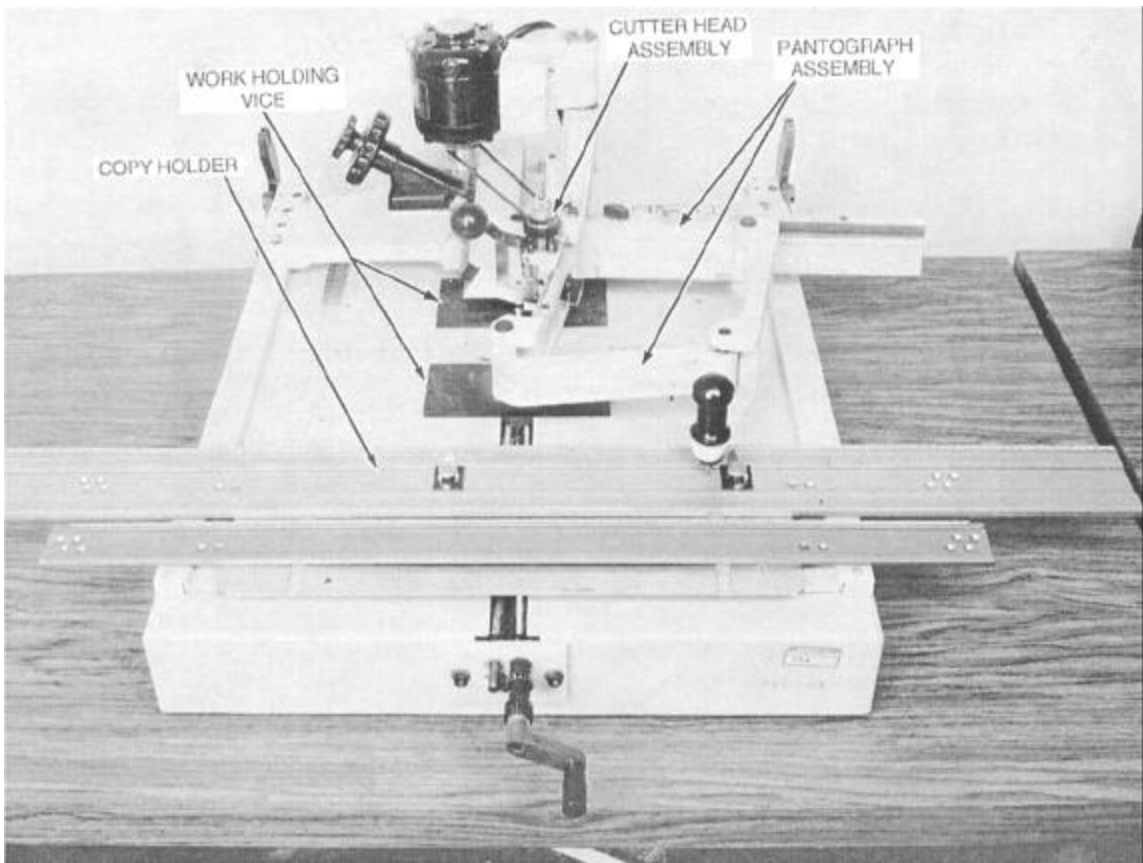

Figure 9-18.—Engraving machine.
There are several different models of engraving machines that you may have to operate. Figure 9-18 shows one model that mounts on a bench or a table top
Most computer-controlled engraving machines are on tenders and at shore repair facilities. We will not discuss setup and training on those machines because it is included in the purchase price and provided by the manufacturer. However, nearly all Navy ships have an engraving machine similar to the one shown in figure 9-18. You will need training on it, so we will discuss it in detail.
The pantograph engraving machine, shown in figure 9-18, consists of four principal parts: pantograph assembly, cutterhead assembly, worktable, and copyholder. We will discuss these parts in the following paragraphs:
1. **PANTOGRAPH ASSEMBLY:** The pantograph assembly (fig. 9-18) consists of moveable bars used to set the reduction and to hold the stylus and cutterhead. The relationship between movement of the stylus point and movement of the cutter is governed by the relative positions of where the bars and the cutter are set.
2. **CUTTERHEAD ASSEMBLY:** The cutterhead assembly (fig. 9-18) houses the precision cutter spindle. You can adjust spindle speeds by changing the pulley drives located between the motor and the spindle. There is a vertical feed lever at the head of the cutter. It provides a range of limited vertical movement from 1/16 inch to 1/4 inch to prevent the cutter from breaking when it feeds into work. A plunger locks the spindle for flat surface engraving or releases it for floating vertical movement of 1/2 inch with the forming guide on curved work. The cutterhead assembly is hinged to permit spindle removal from the side. This makes it unnecessary to disturb any work by lowering the table.
3. **WORKHOLDING VISE:** The workholding vice shown in figure 9-18 is used to hold flat material or nametags. For odd-shaped jobs, there are several fixtures available that mount to the machine base. You can buy these fixtures from your machine's manufacturer.
4. **COPYHOLDER:** The copyholder shown in figure 9-18 is a dovetailed slot used to hold the master characters commonly known as copy.
For this job, set the scales (fig. 9-18) at 5.